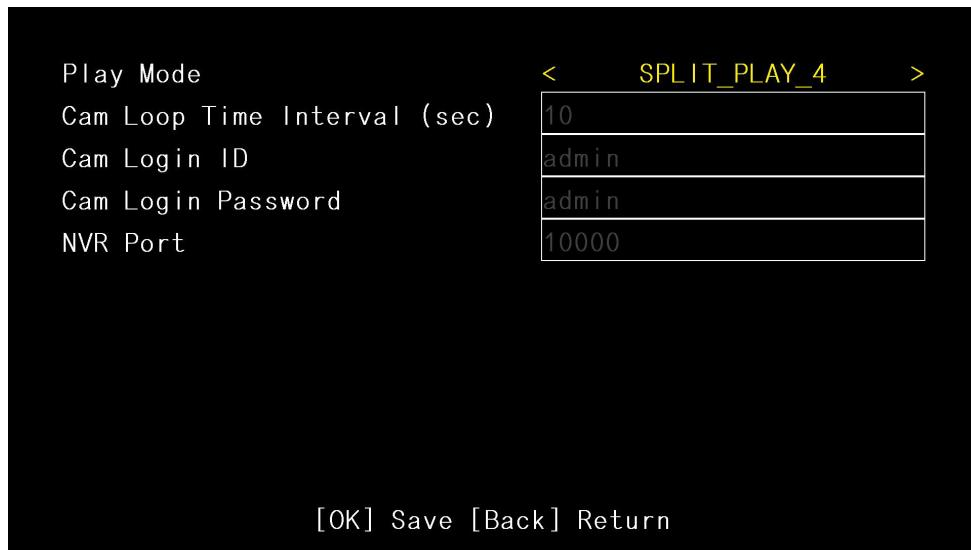

Figure 3-3
- B. By default, GV-Mobile Server has the same ID and password (admin / admin) with GV-IP Decoder Box. If you have changed the **CAM Login ID** and **Password** on the GV-IP Decoder Box (Figure 3-3), select **Custom** and type the new ID and password for GV-Mobile Server.